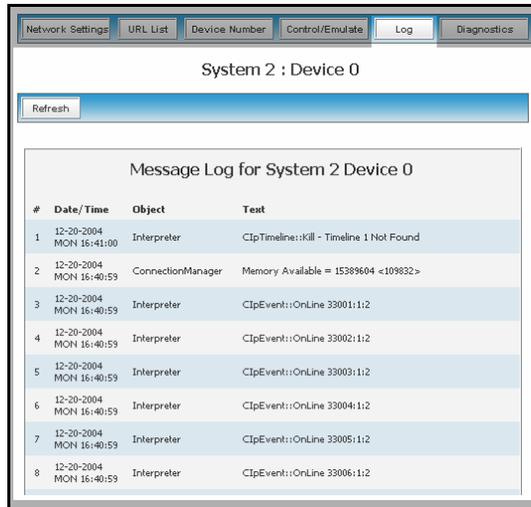

FIG. 58 Log dialog
3. Click the **Log** button (FIG. 58). This dialog allows the user to view the log for the selected device (*currently only the Master supports this feature*).